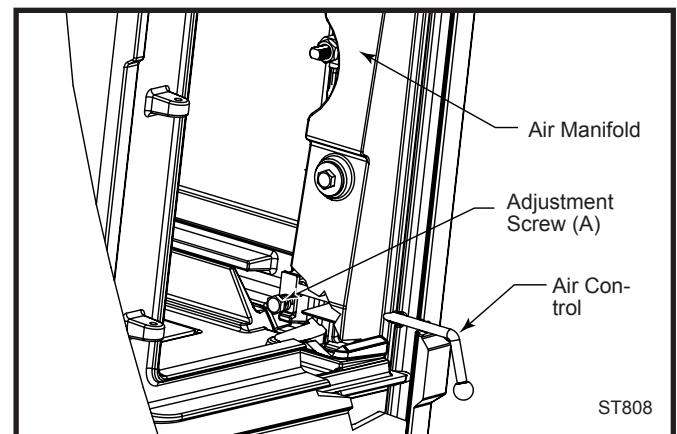

Fig. 29 Primary air control adjustment.
Over time, the air control may tighten or loosen. To adjust the tension on the control, let the stove cool to room temperature. Open the side-loading door and look in toward the inner side of the front panel of the stove. (Fig. 29) Locate the lower hex head bolts (A) on the primary air manifold rods on either side of the door. Adjust with a 7/16" wrench.